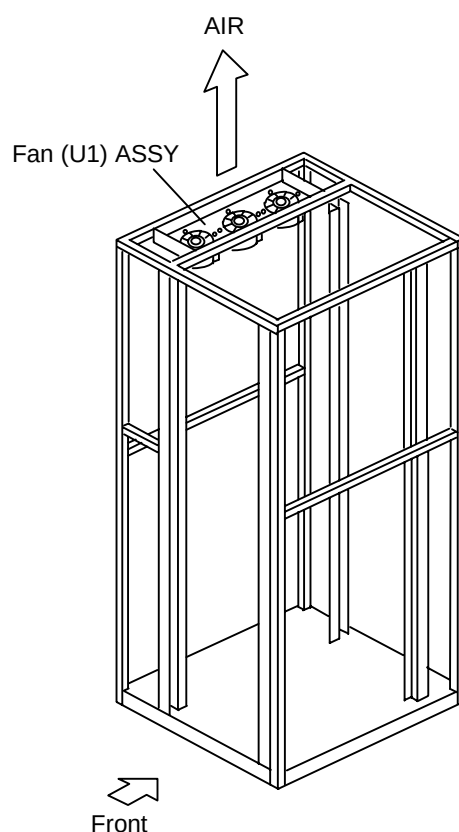

Figure 2.4.1 Checking the Fans of the U1 Frame
- (1) Confirm that air blows from each fan in the direction of the arrow shown in Figure 2.4.1. Also check each fan for any abnormal sounds.
- (2) If there is no air blowing, or an abnormal sound is heard, replace the fan with the spare.